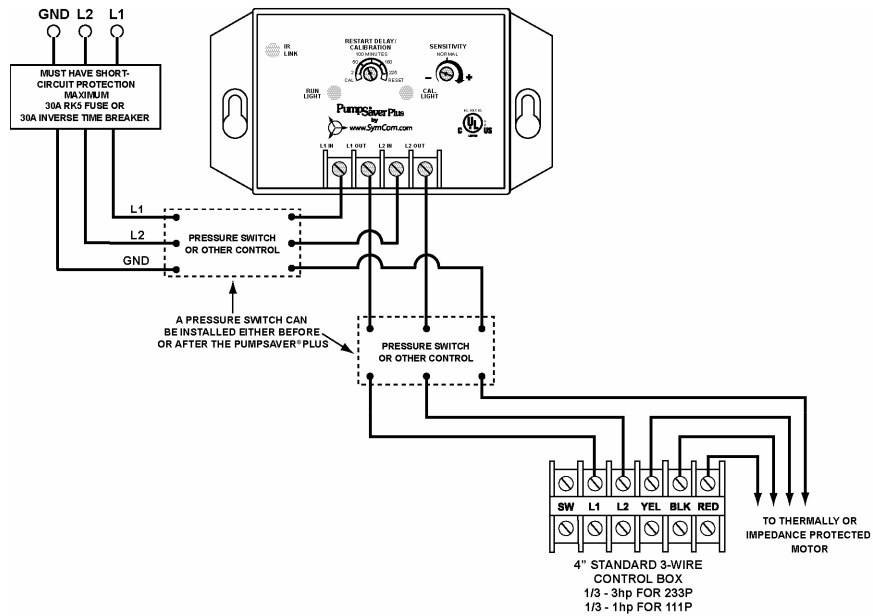

FIGURE 2: Standard Control Box Wiring Diagram
- Standard 3-wire control box – Figure 2